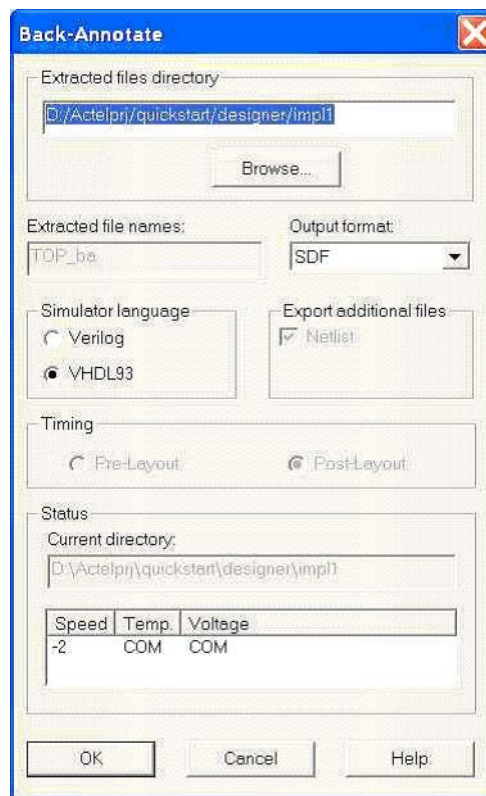

Figure 7-36 • Back-Annotate Dialog Box
13. From Designer, click **Back-Annotate** in the Design Flow window. This opens the Back-Annotate dialog box, shown in Figure 7-36.